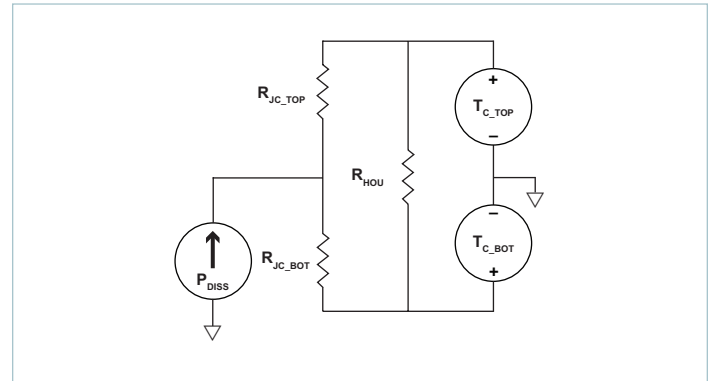
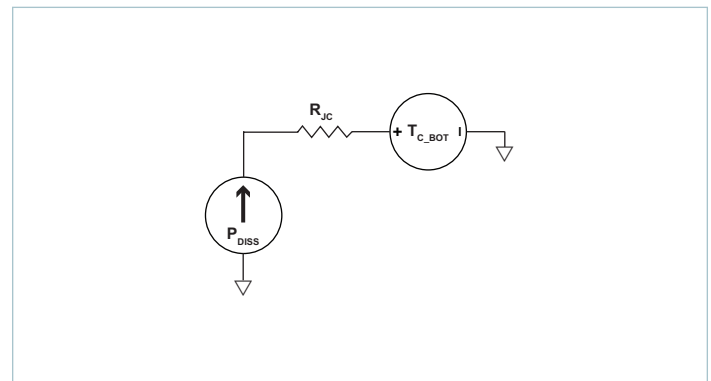

Figure 21 — Double-sided cooling VIA thermal model
Figure 22 — Single-sided cooling VIA thermal model
two surfaces are cooled is a key component for determining the maximum power that can be processed by a VIA, as can be seen from specified thermal operating area on Page 5. Since the VIA has a maximum internal temperature rating, it is necessary to estimate this internal temperature based on a system-level thermal solution. To this purpose, it is helpful to simplify the thermal solution into a roughly equivalent circuit where power dissipation is modeled as a current source, isothermal surface temperatures are represented as voltage sources and the thermal resistances are represented as resistors. Figure 21 shows the “thermal circuit” for the VIA module.
- Single side cooling: the model of Figure 21 can be simplified by calculating the parallel resistor network and using one simple thermal resistance number and the internal power dissipation curves; an example for bottom side cooling only is shown in Figure 22.